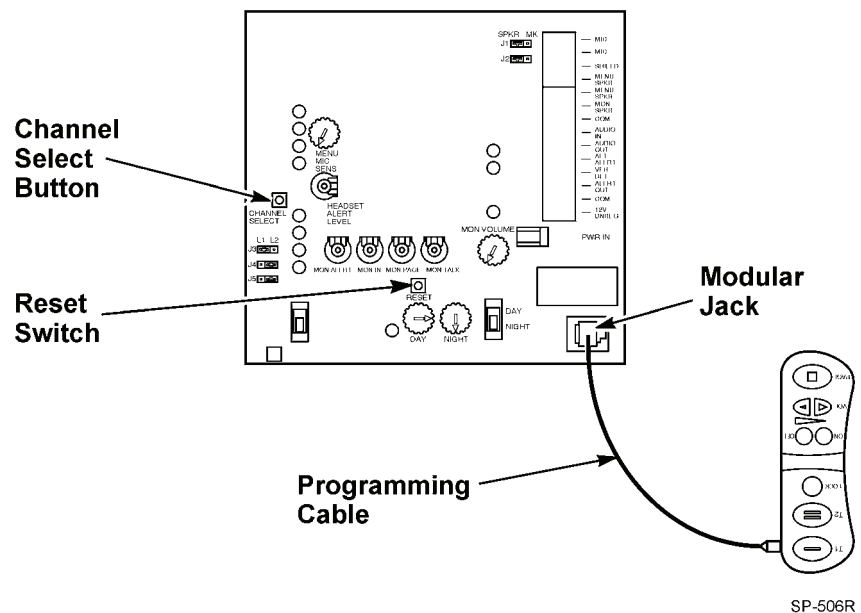

Figure 17.
3. With the transceiver pack turned OFF, plug one end of the programming cable into the transceiver pack programming jack. See Figure 17.
4. Plug the other end of the programming cable into the base station programming jack. See Figure 17.